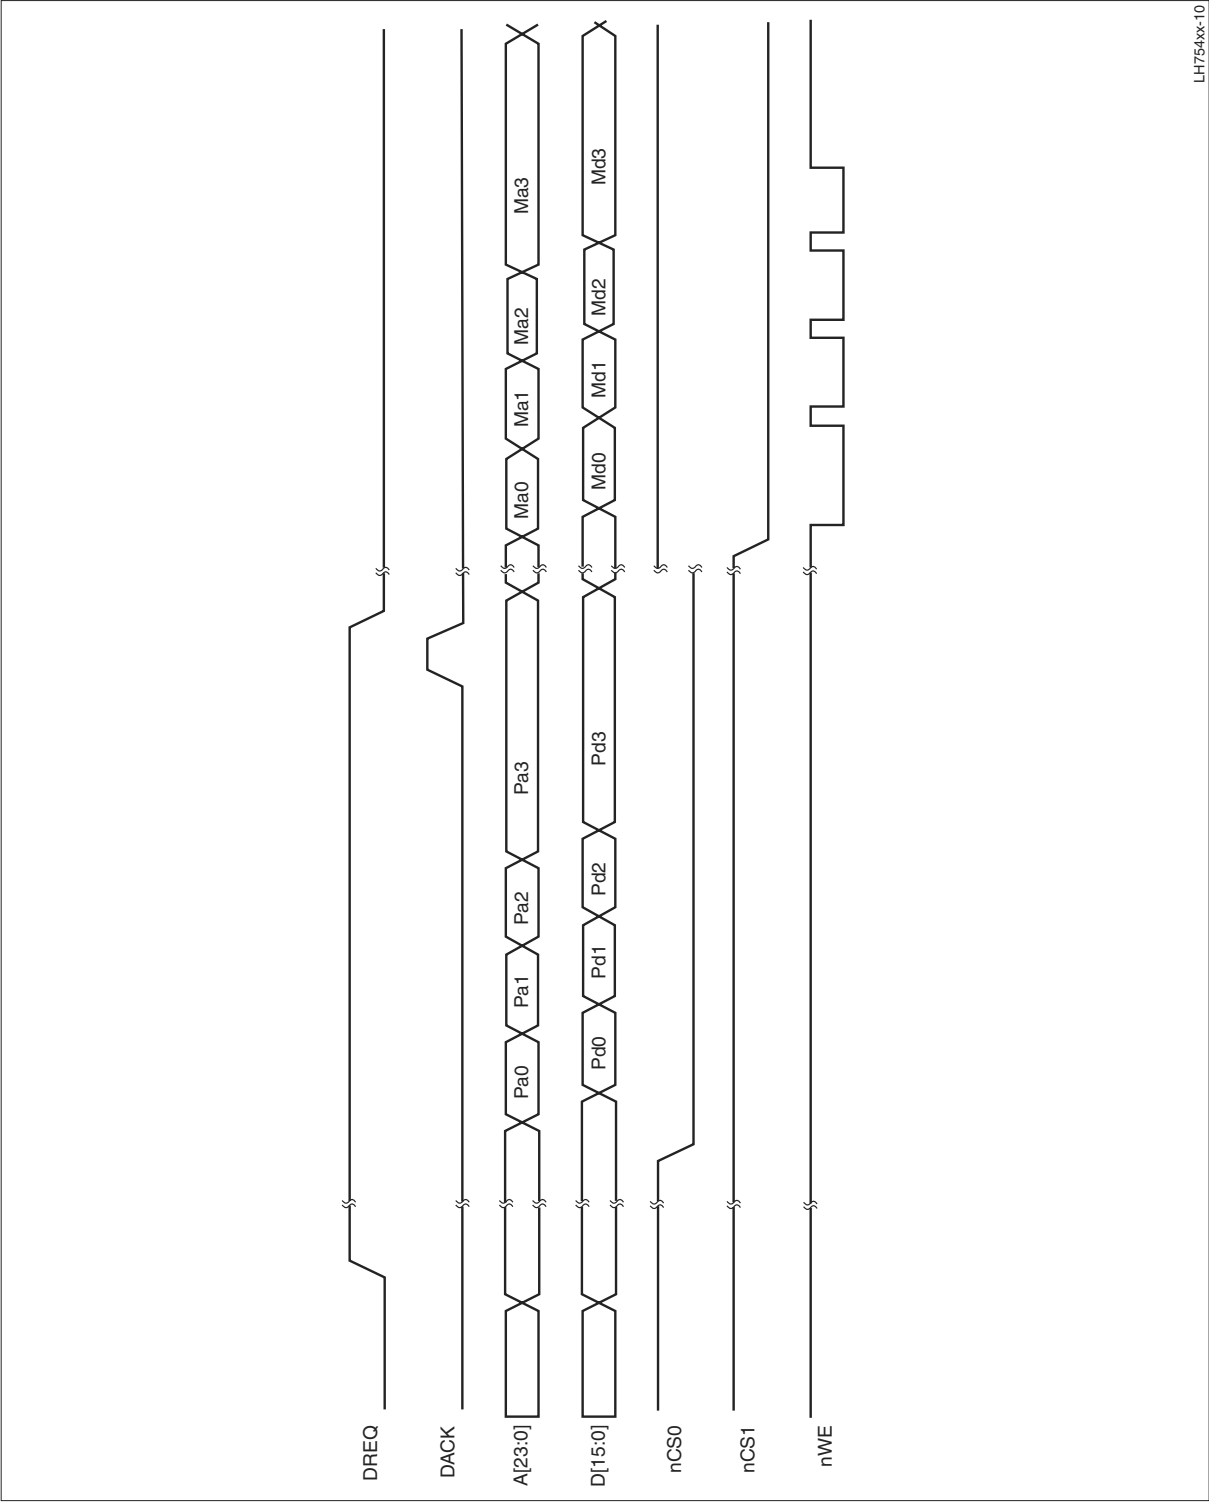

Figure 18. Peripheral-to-Memory Data-Transfer Timing
Figure 18 and Figure 19 show examples of DMA timing diagrams.
- Figure 18 shows the timing for a peripheral-to-memory data transfer, where